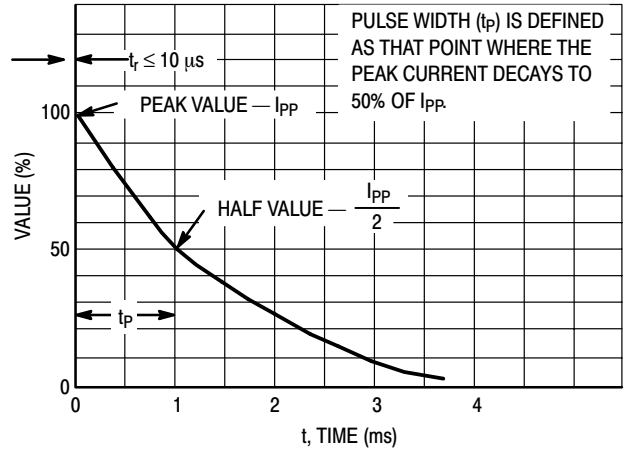
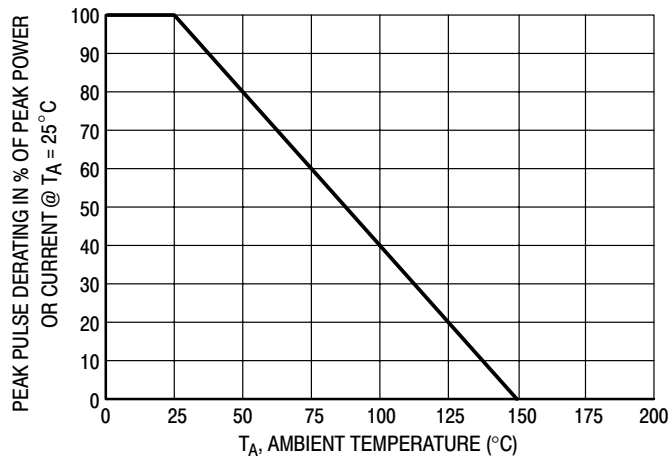

Figure 5. Pulse Waveform
Figure 6. Pulse Derating Curve
5. Surge current waveform per Figure 5. and derate per Figure 6.
- Peak Power – Minimum 24 W @ 1 ms (Unidirectional), per Figure 5
- Peak Power – Minimum 150 W @ 20 μ s (Unidirectional), per Figure 6